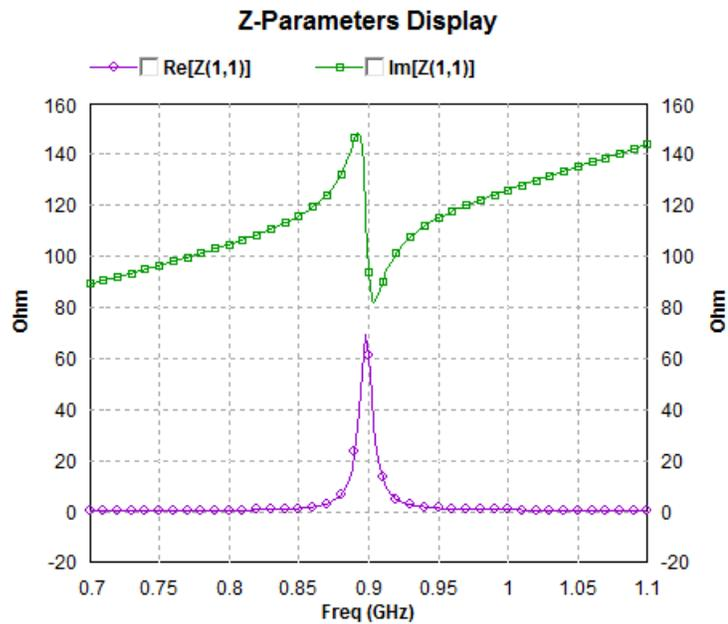
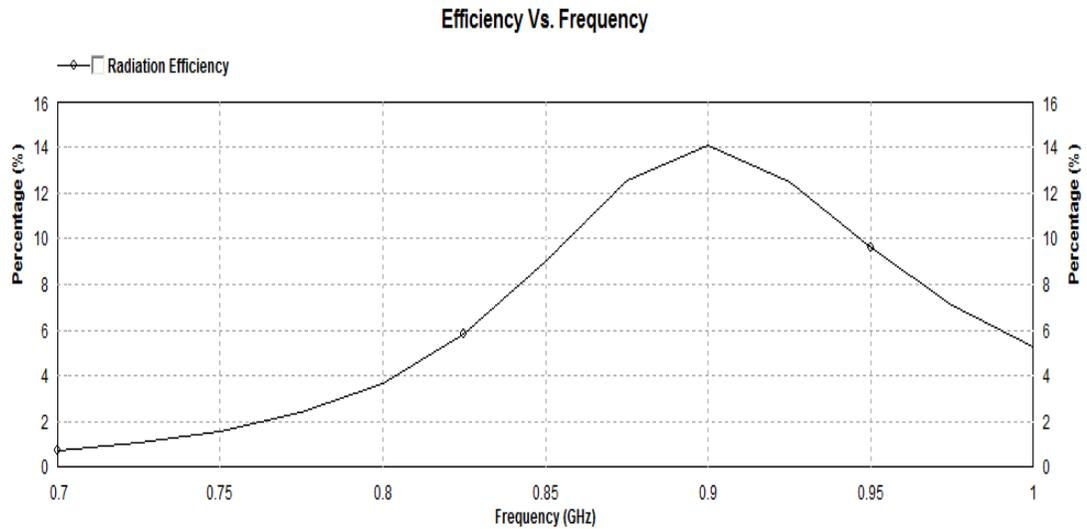

Figure 3.0, "Theoretical Antenna Impedance – Real and Imaginary."
Figure 4.0, "Theoretical Antenna Efficiency."
antenna impedance, both real and imaginary is shown in Figure 3.0. The radiation efficiency, shown in Figure 4.0 is 11% to 14% from 867 to 930 MHz. The theoretical antenna impedance, directivity, and radiation efficiency data was collected for estimating the inlay sensitivity and read range. The results are displayed in Table 1.0. The estimated RF sensitivity is -18.6 to -17.7 dBm at 867 and 915 MHz respectively. The resulting read range using an FCC (NA) approved reader system (1 W, 6 dBi gain, CP reader antenna, 36 dBm EIRP) is 29.3' (8.9 m). The EU read range using a similar reader system with 0.5W of conducted power is 24.3' (7.4 m).